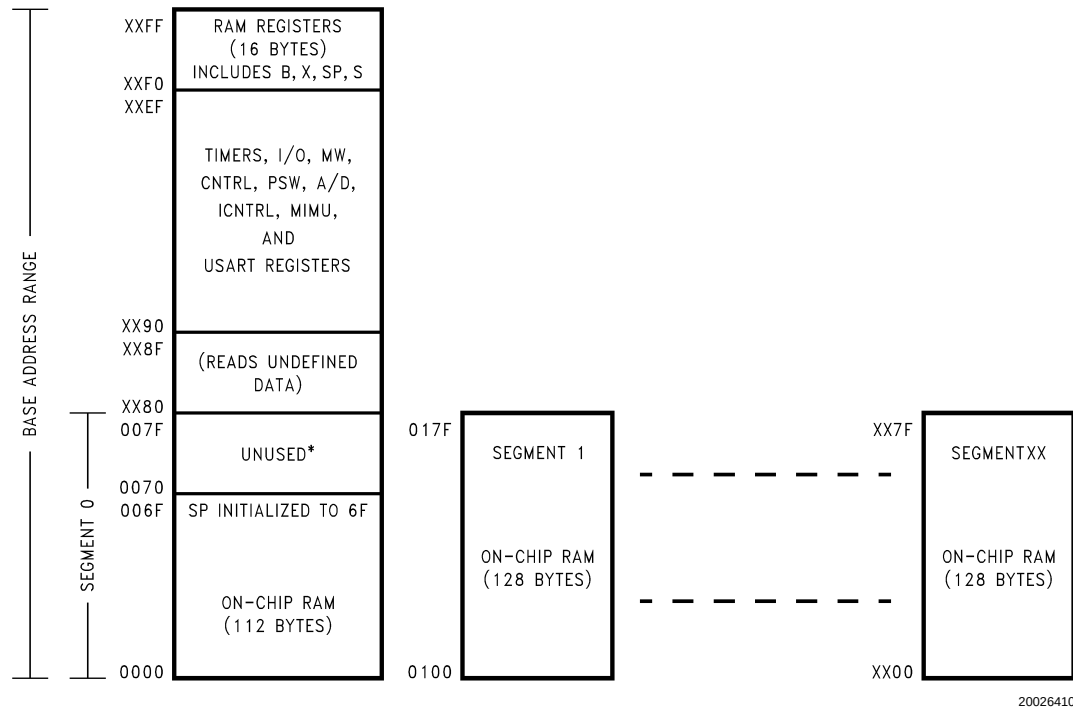

FIGURE 7. RAM Organization
*Figure 7* illustrates how the S register data memory extension is used in extending the lower half of the base address range (00 to 7F hex) into 256 data segments of 128 bytes each, with a total addressing range of 32 kbytes from XX00 to XX7F. This organization allows a total of 256 data segments of 128 bytes each with an additional upper base segment of 128 bytes. Furthermore, all addressing modes are available for all data segments. The S register must be changed under program control to move from one data segment (128 bytes) to another. However, the upper base segment (containing the 16 memory registers, I/O registers, control registers, etc.) is always available regardless of the contents of the S register, since the upper base segment (address range 0080 to 00FF) is independent of data segment extension.